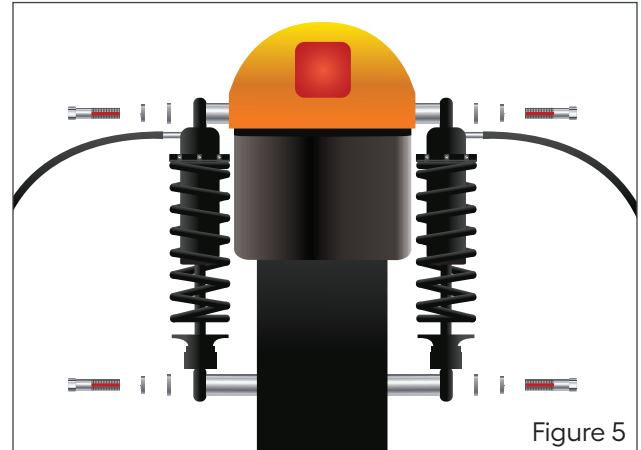

Figure 5
- Install the shocks and tighten the mounting bolts to 70 ft-lbs (Figure 5).